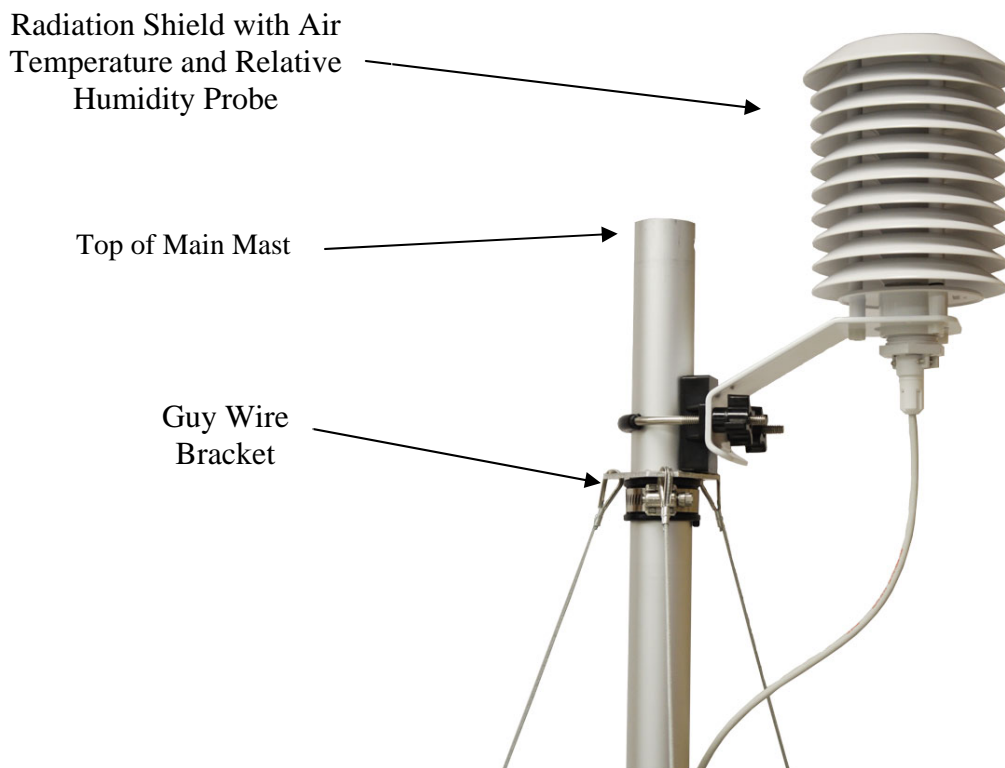

Figure 1. Radiation Shield & Guy Wire Assembly
**Step 2** – If using the guy wire assembly, remove from the mesh bag and slide it over the top of the main mast. It will rest on the permanent black retaining ring near the top of the mast. Insert the loop at the free end of the guy wire over the hook of the tie down peg. Insert pegs into ground after completing **Step 6**. (See Figure 1)
**Step 3** – Remove the Air Temperature/Relative Humidity sensor housed in the white, circular radiation shield. Slide it over the tripod mast and let it rest on the guy wire collar or guy wire-retaining ring (if the guy wire is not being used). Do not tighten at this time. (See Figure 1)